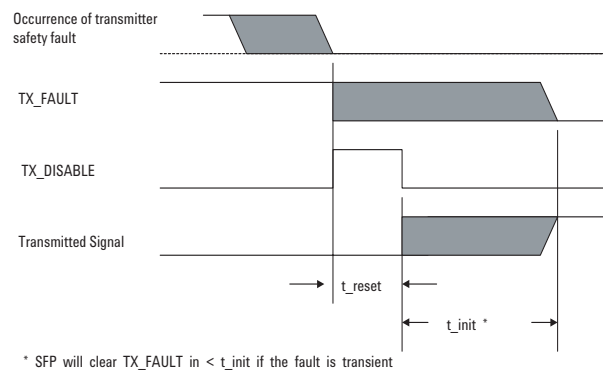

Figure 8. Successful recovery from transient safety fault condition
This can be (1) failure of the laser driver or (2) end-of-life of the laser. Under these conditions, the laser will be deactivated within the assert time. TX_FAULT also requires a $4.7\text{k}-10\text{k ohm}$ pull-up resistor external to the module, i.e. in the host system Host_ V_{cc} , as shown in Figure 13. The pull-up voltage is between 2.0 V and $V_{ccT}(V_{ccR}) + 0.3\text{ V}$. Conditions (1) and (2) are latched, and for diagnostic purposes only, may be reset by toggling TX_DISABLE high for at least t_{reset} . See Table 11 and Figure 8.